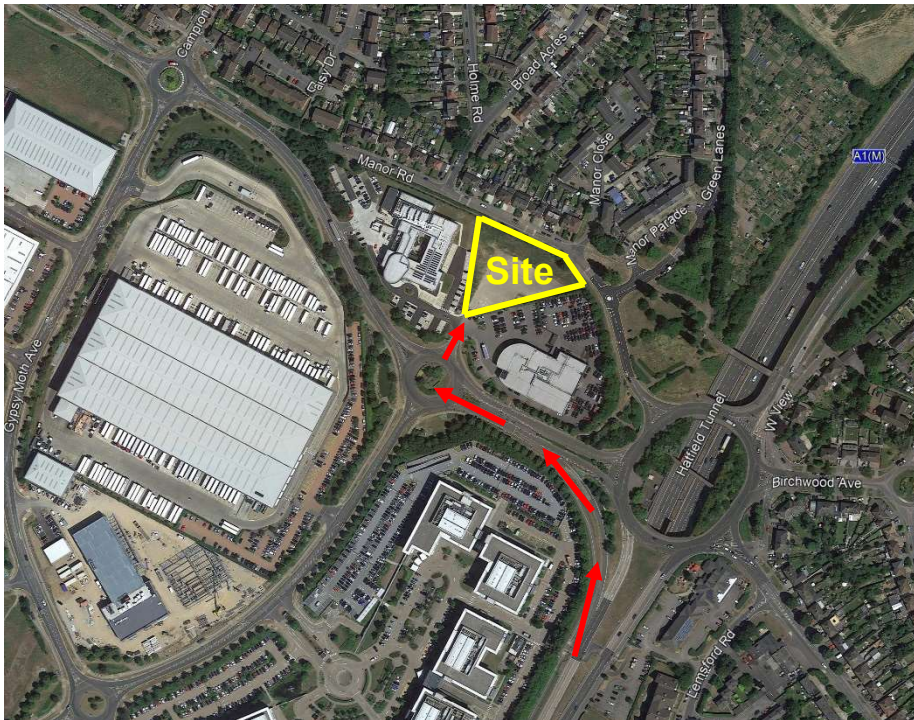

Figure 1
- Construction vehicles will enter and leave the site from the entrance along Hatfield Avenue (see Figure 1);